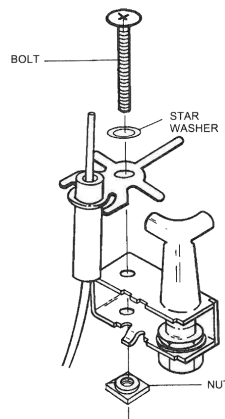

Figure 2
2. The ignitor/sensor assembly is ready to be attached to the furnace pilot. Slide the mounting bolt with the ignitor/sensor bracket down through the thermocouple opening of the pilot frame as shown in Figure 2. Install the retainer nut onto the mounting bolt and tighten finger tight.